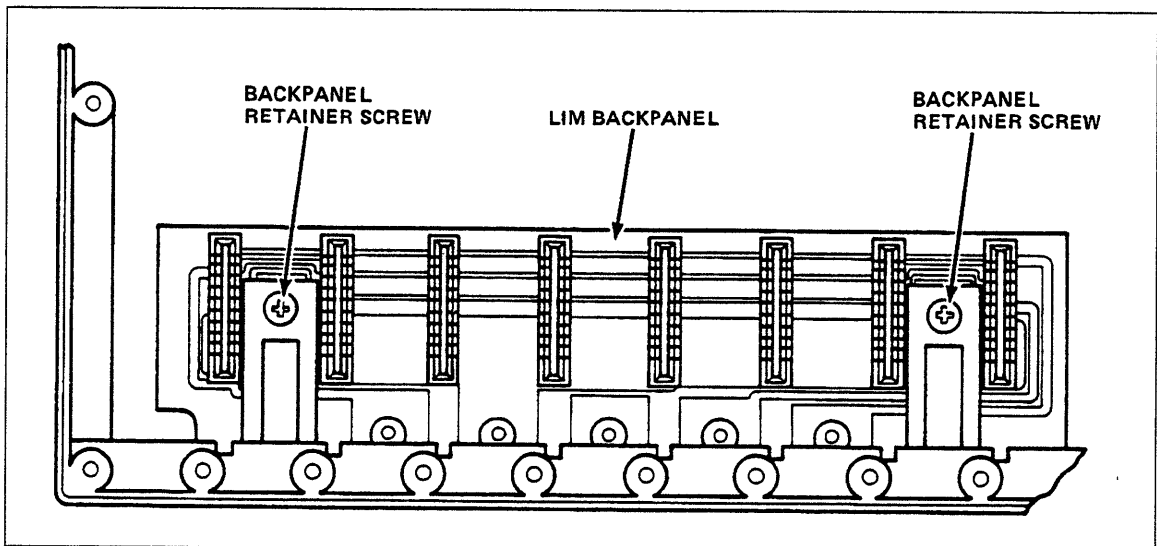

Figure 9-14. LIM Backpanel (Back View)
7. From the back of DI, locate two LIM backpanel retainer screws (figure 9-14). Loosen two screws and carefully lift up and remove backpanel.